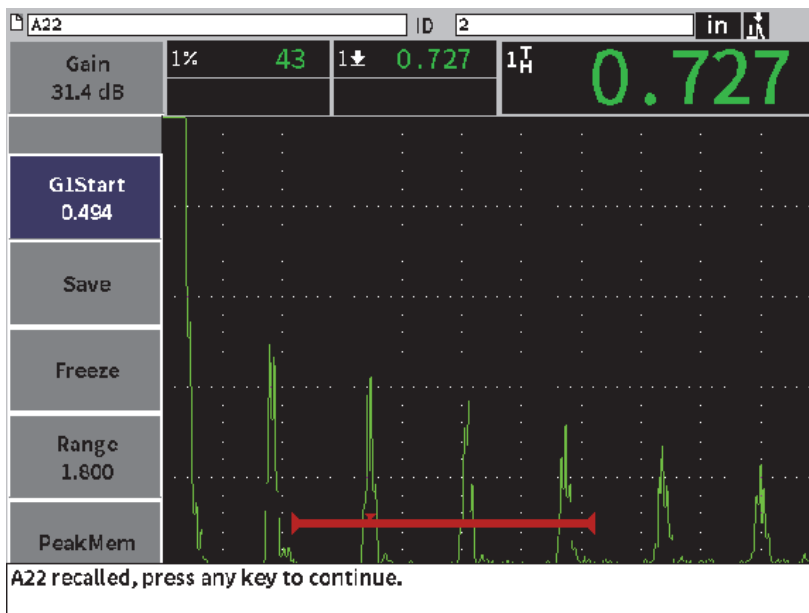

Figure 9-10 Recalled file data
2. Press the Enter key to bring the saved data to the live A-scan display (see Figure 9-10 on page 134).
The ID being viewed is displayed in the file identifier bar. The notification “<filename> recalled, press any key to continue” is displayed in the message bar (see Figure 9-10 on page 134).